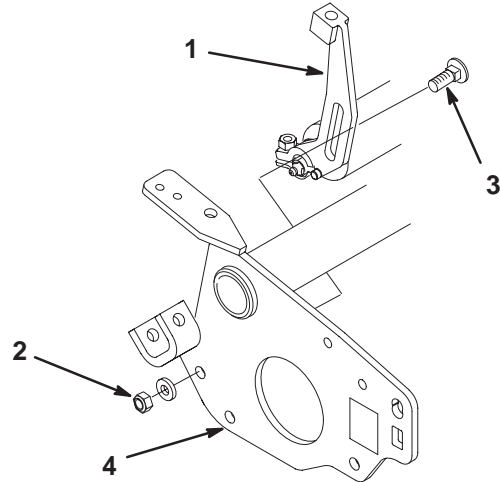

Figure 2
3. On the same end of the cutting unit, remove the locknut and flat washer from the carriage bolt securing the height-of-cut bracket to the cutting unit side plate (Fig. 2).